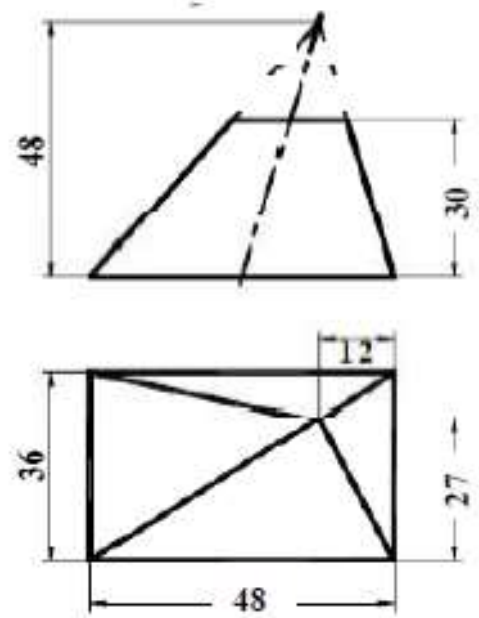

Figure Q3
- (a) Two views of an oblique truncated pyramid are shown in Figure Q3. Reproduce the views showing the true shape of the plan. From the views drawn, construct the surface development of the truncated pyramid taking the seam line to be the longest edge. (12 Marks)